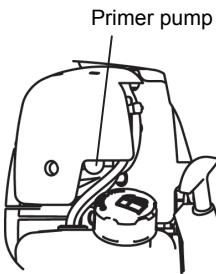

Figure 2
- Continue to push the primer pump until fuel comes into the primer pump (Figure 2).